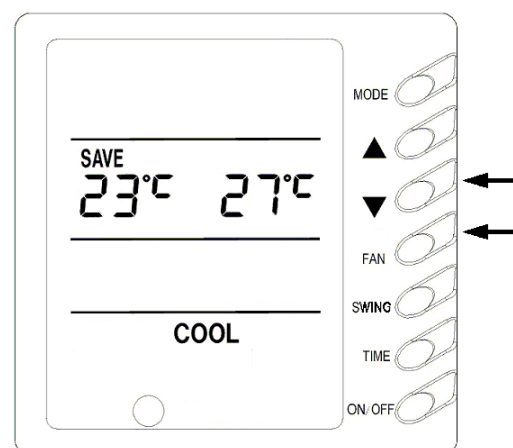

Fig.15
8) Energy Saving Setting (Fig.15)